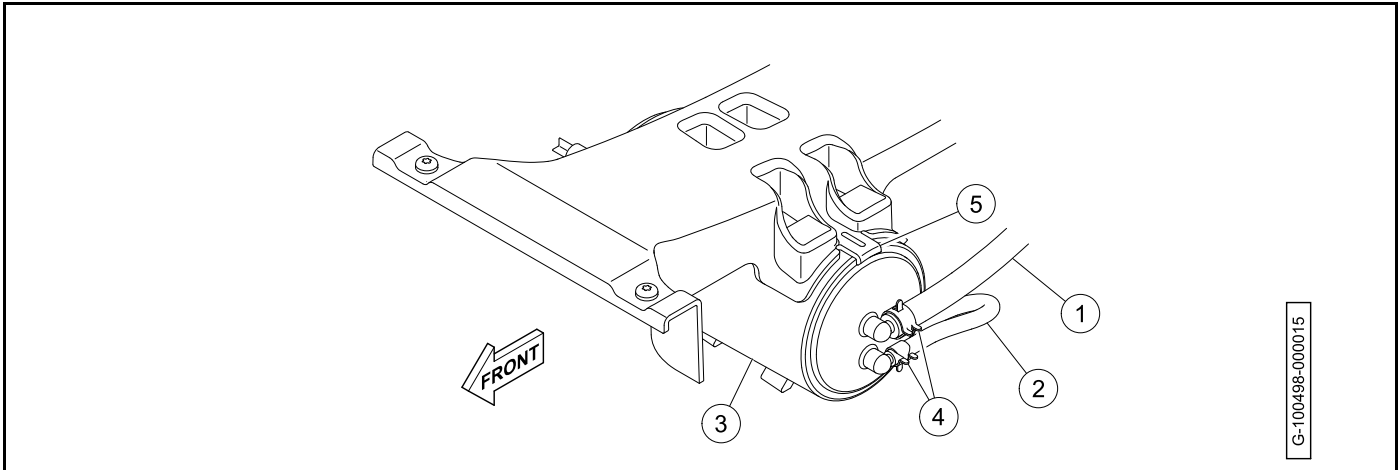

Figure 22-11
1. Install the carbon canister (3) on the bucket brace. Make sure that the tab (5) is secured (**Figure 22-11**).
2. Connect the vent line (1).
3. Connect the purge line (2).
4. Install the clamps (4).